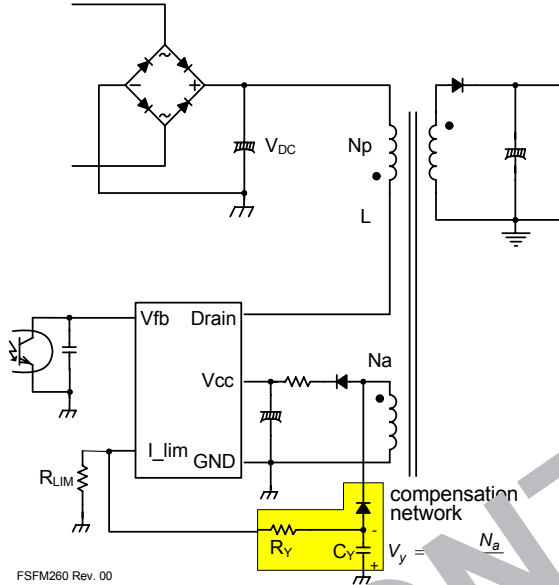

Figure 18. Constant Power Limit circuit
2.3 Constant Power Limit Circuit: Due to the circuit delay of FPS, the pulse-by-pulse limit current increases a little bit when the input voltage increases. This means unwanted excessive power is delivered to the secondary side. To compensate, the auxiliary power compensation network in Figure 18 can be used. R_{LIM} can adjust pulse-by-pulse current by absorbing internal current source (I_{FB}: typical value is 0.9mA) depending on the ratio between resistors. With the suggested compensation circuit, additional current from I_{FB} is absorbed more proportionally to the input voltage (V_{DC}) and achieves constant power in wide input range. Choose R_{LIM} for proper current to the application, then check the pulse-by-pulse current difference between minimum and maximum input voltage. To eliminate the difference (to gain constant power), R_y can be calculated by: